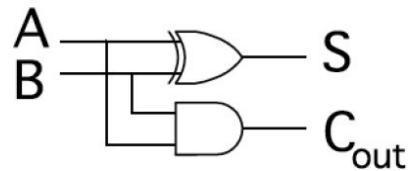

Figure 2: The half-adder
- The fundamental circuit for computation is the half adder. Figure 2 illustrates the half-adder combinational logic circuit. The output S is the sum of inputs A and B, where  $C_{out}$  represents a carry out. Build this circuit and verify the truth table. Use switches for inputs and LEDs for output(s).